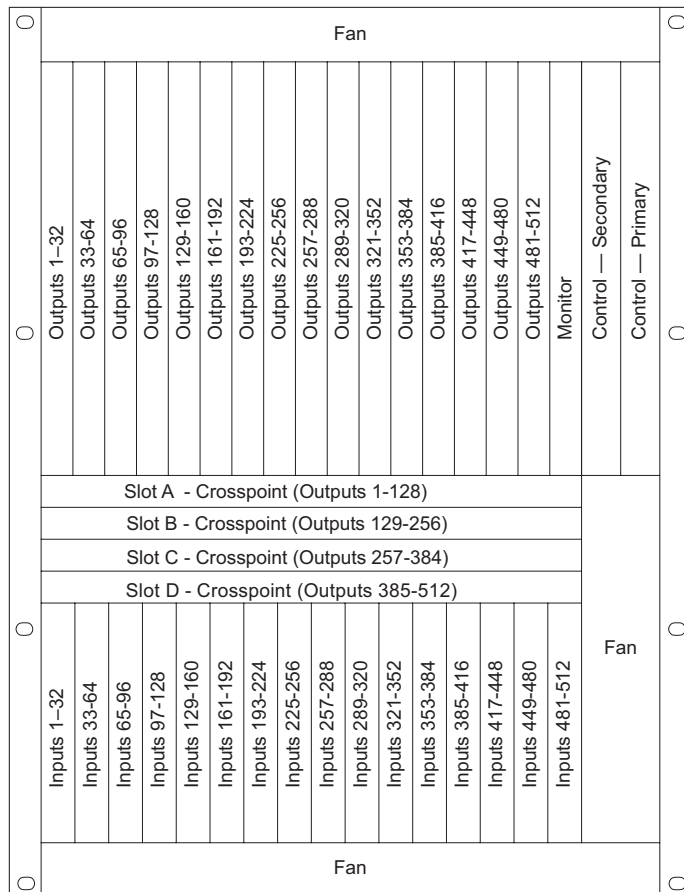

Figure 1-4. Inputs and Outputs, Numbers Assigned (Front View)
The router has 16 slots for input cards and 16 slots for output cards. Slots are numbered 1, 2, and so on, from left to right, when facing the front of the router. Each input card slot and output card slot, and the card it holds, receives or distributes signals through coaxial connectors housed on a back-plane. Each signal is assigned a number that corresponds to the physical input or output connection up to the maximum number of signals allowed (32). The signal numbers correspond to the slot in which an input card or output card is installed: Input slot 1 corresponds to inputs 1–32, input slot 2 corresponds to inputs 33–64, and so on, up to 512, as shown in Figure 1-4 on page 10. Output slots are similarly numbered, such that output slot 1 corresponds to outputs 1–32, output slot 2 corresponds to outputs 33–64, and so on, up to 512, as shown in Figure 1-4 on page 10.